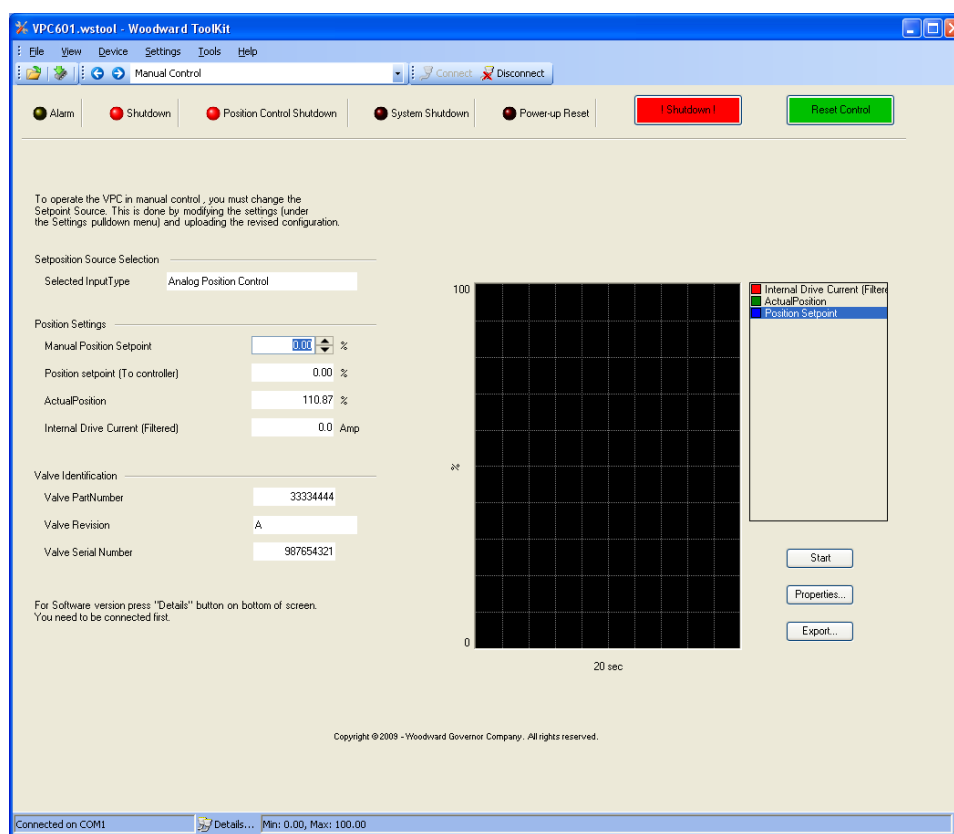

Figure 4-9. Manual Control Screen
**Manual Control**—Displays Manual valve stroking mode (Figure 4-9).
The Manual Control screen is used during initial commissioning or when troubleshooting to confirm the operation of the GS6. This screen can also be used to monitor the ability of the system to respond to a change in position setpoint, valve position, motor current level and valve identification (Figure 4-9).